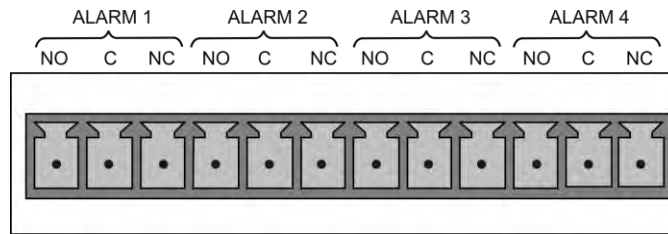

Figure 3-12: Concentration Alarm Relay
The concentration relay option provides four (4) “dry contact” relays on the rear panel (Figure 3-12), each with 3 pins: Common (C), Normally Open (NO), and Normally Closed (NC).